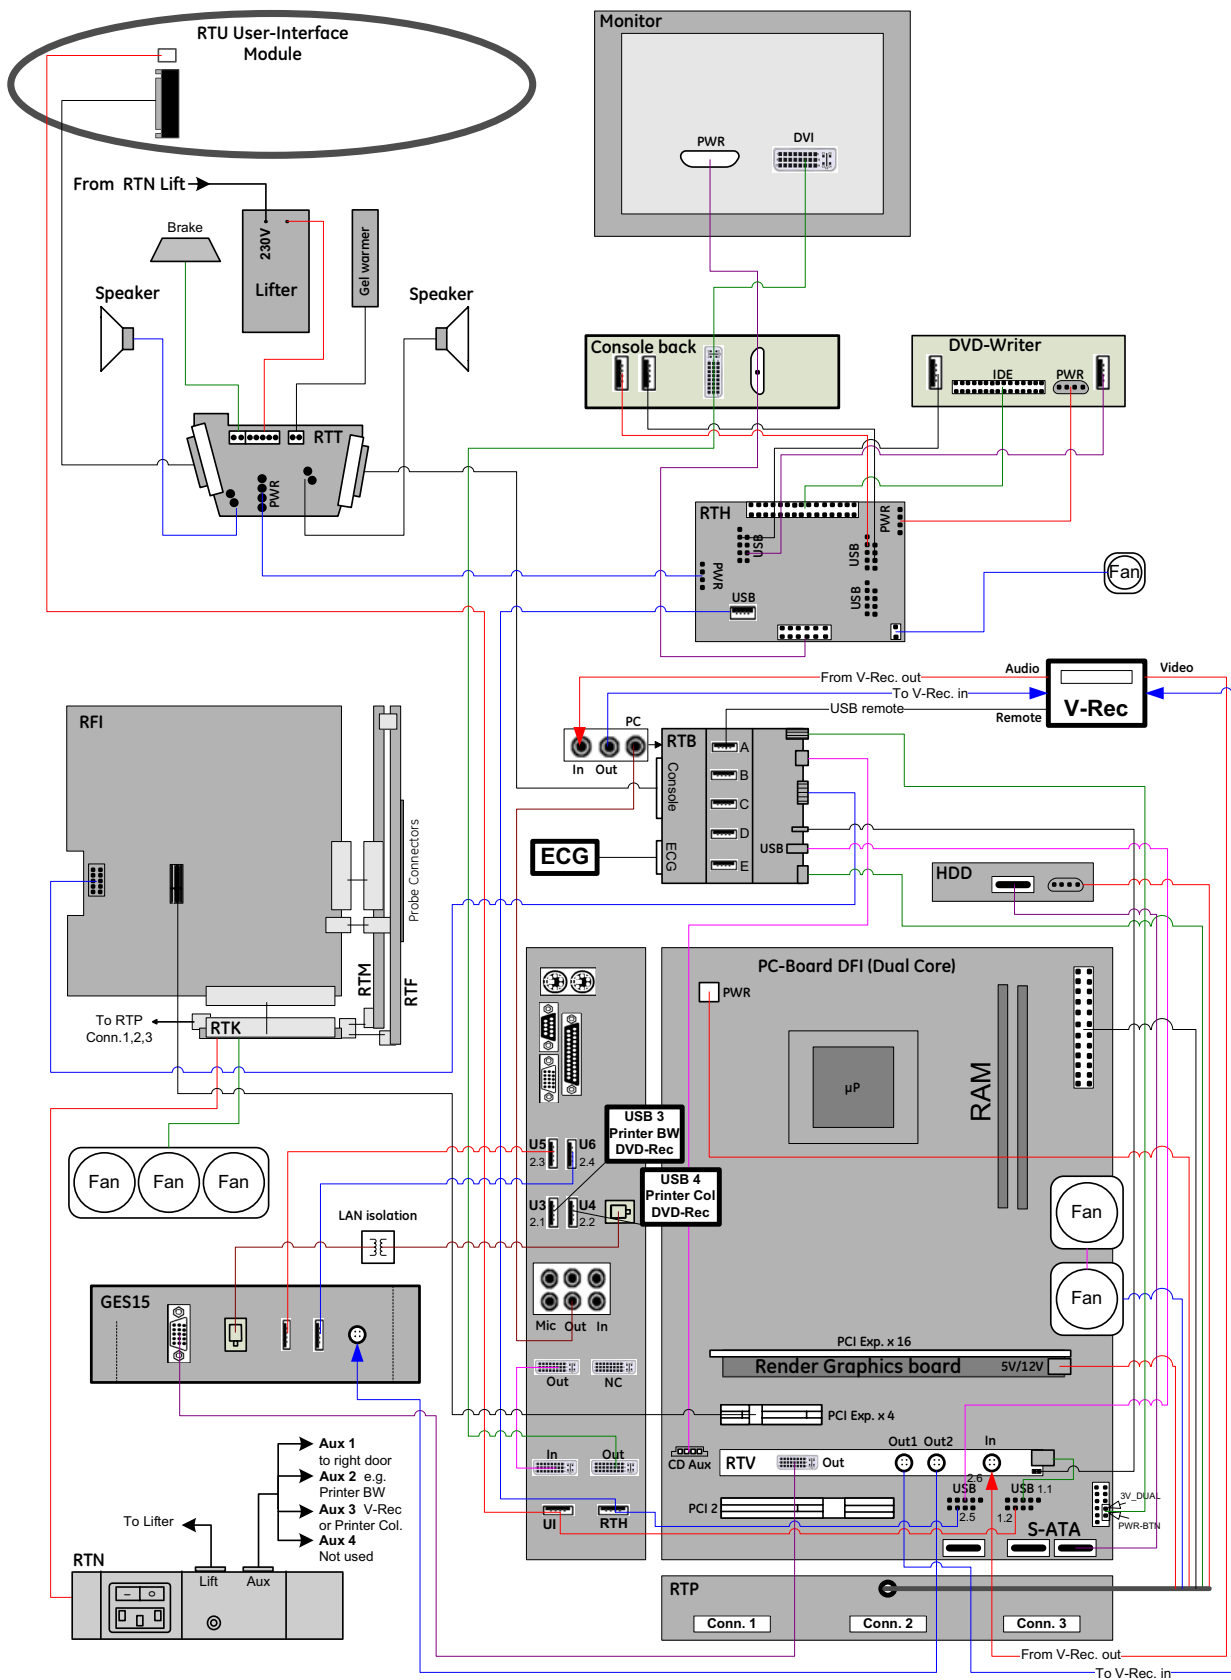

Figure 5-21 Voluson E8 (BT10): Internal I/O - DFI Dual-core PC-Motherboard
- “DFI Dual-core” PC Motherboard is installed, see: Figure 5-21 on page 5-45.